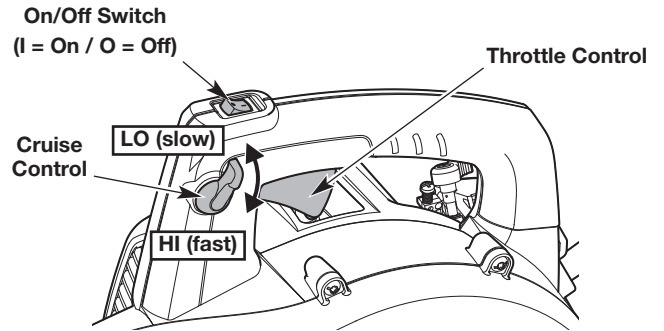

Fig. 3
NOTE: There is no need to turn the unit on. The On/Off switch is in the **On (I)** position at all times (Fig. 3).
4. Move the cruise control to the **LO (slow)** position (Fig. 3).
NOTE: Keep the cruise control in the **LO (slow)** position and **DO NOT** squeeze the throttle control until step 9 (Fig. 3).
9. Squeeze and hold the throttle control or move the cruise control to the **HI (fast)** position (Fig. 3).
2. Press and hold the On/Off switch in the **Off (O)** position until the engine comes to a complete stop (Fig. 3).
- Use the cruise control to make continuous operation easier (Fig. 3).